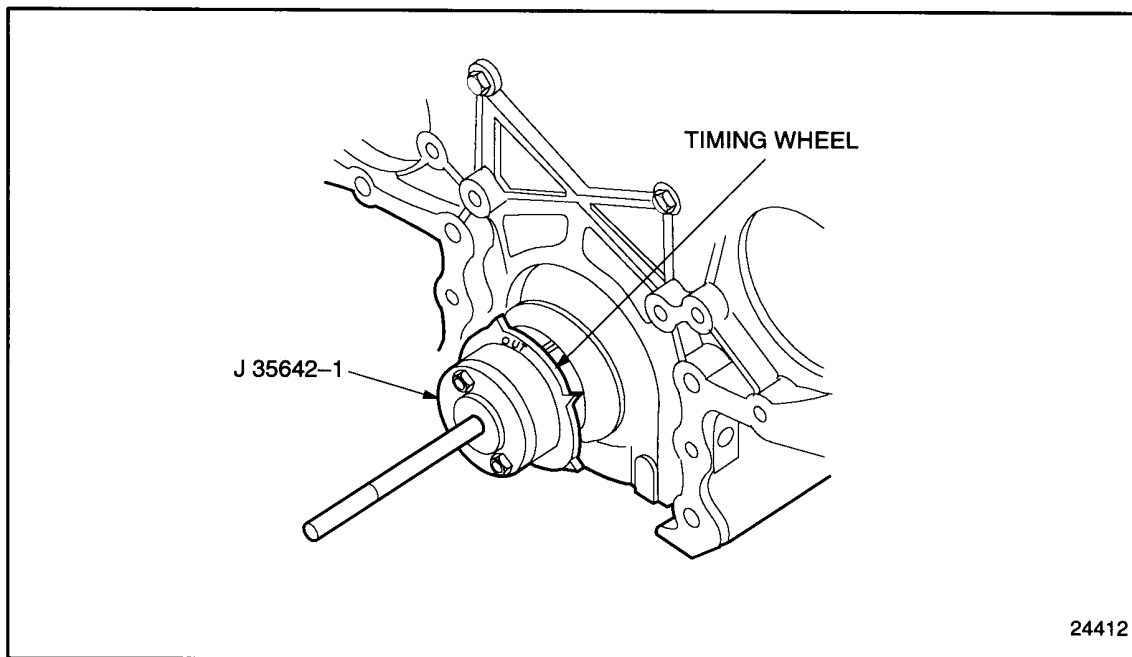

Figure 1-363 Timing Wheel Installation
3. Index the keyway of the timing wheel with the key in the crankshaft. Slide the timing wheel onto the crankshaft, with the word OUT on the timing wheel facing you, as far as it will go without forcing it. See Figure 1-363.